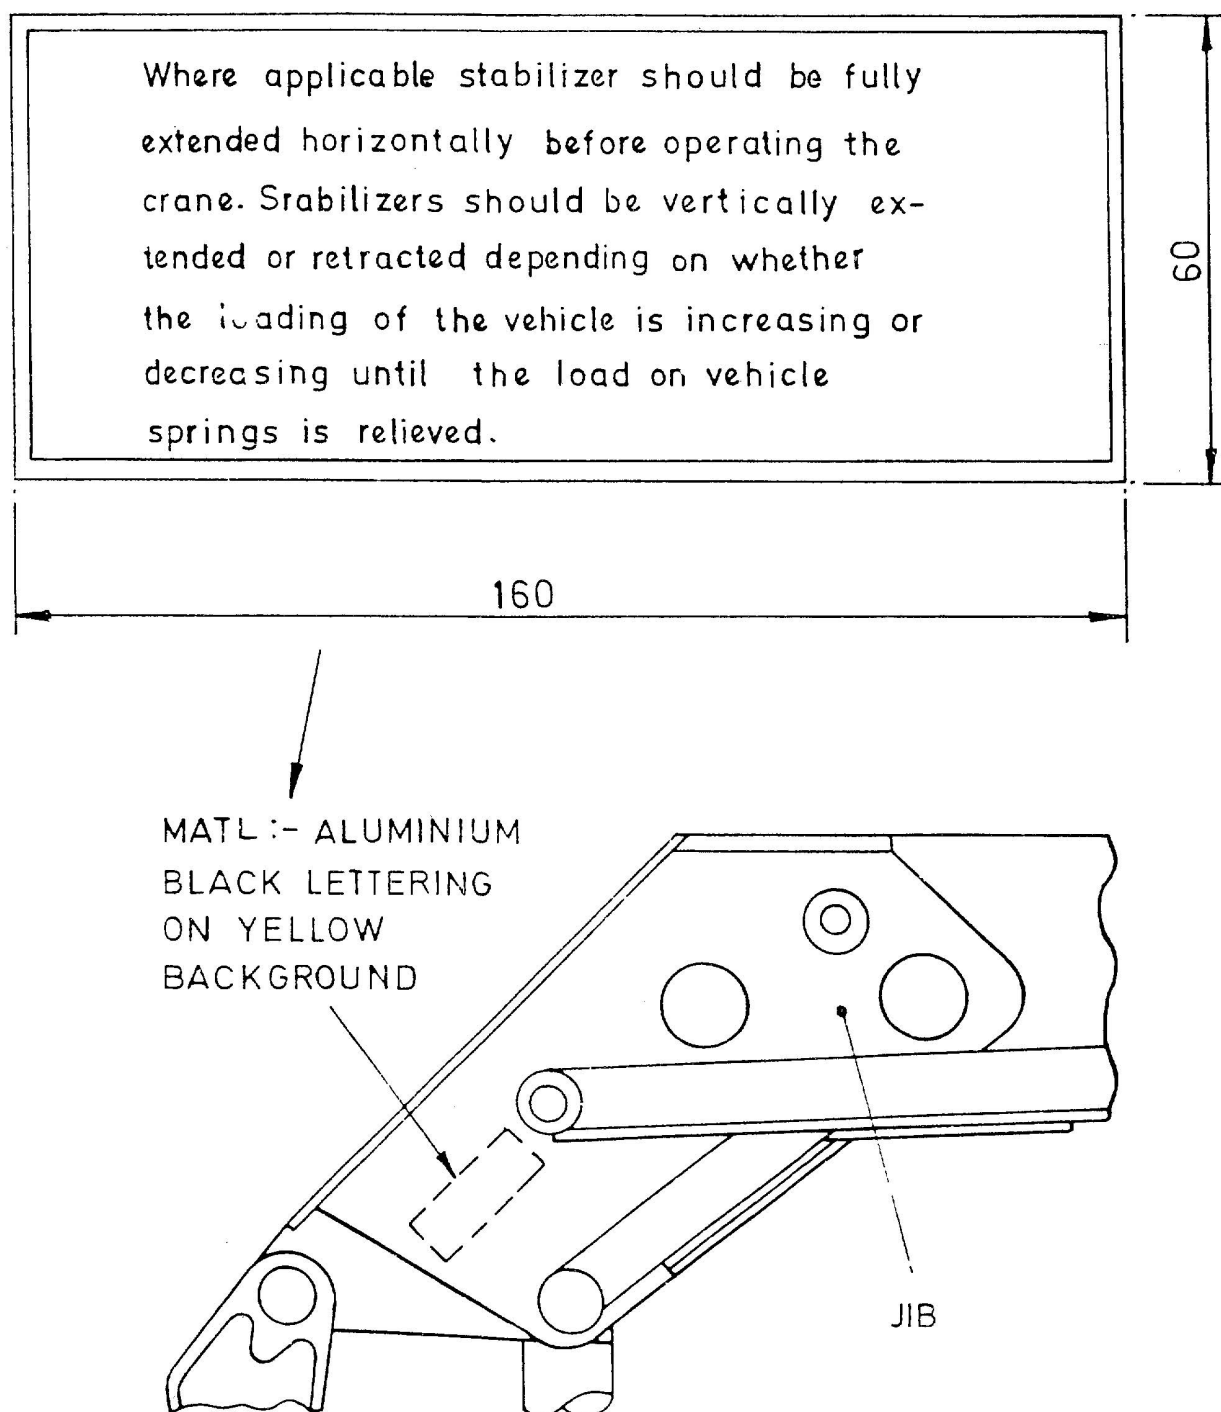

Fig 1 Location of label-crane stabilizer instruction
9.1 Remove and discard existing label-crane stabilizer instruction (item 2) located as shown in Fig 1.